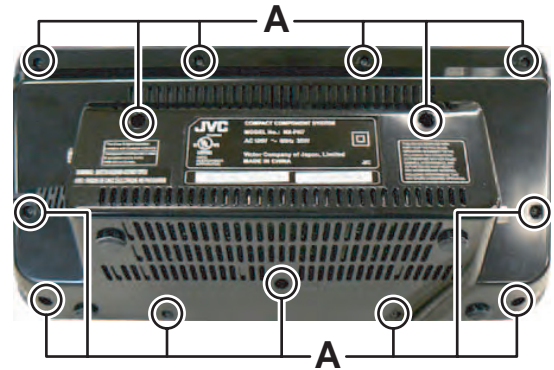

Fig.1
#### 3.1.1 Removing the Rear cabinet (See Fig.1, 2)
- (1) Remove the thirteen screws **A** attaching the Rear cabinet. (See Fig.1)